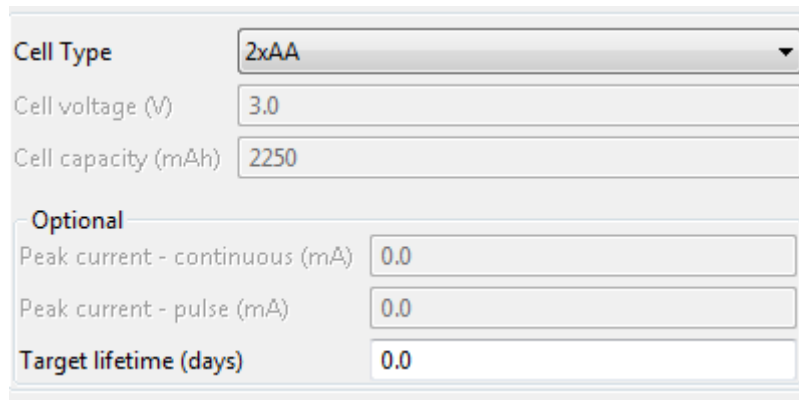

Figure 4-7. Battery Selection
- **Battery Selection** (see Figure 4-7): The window is used to select one of the available standard batteries or define a customized battery. The EnergyTrace will use the battery characteristics to calculate the estimated selected battery lifetime for the current application depending on the measured current consumption. Available standard batteries are CR2032, 2xAAA or 2xAA.